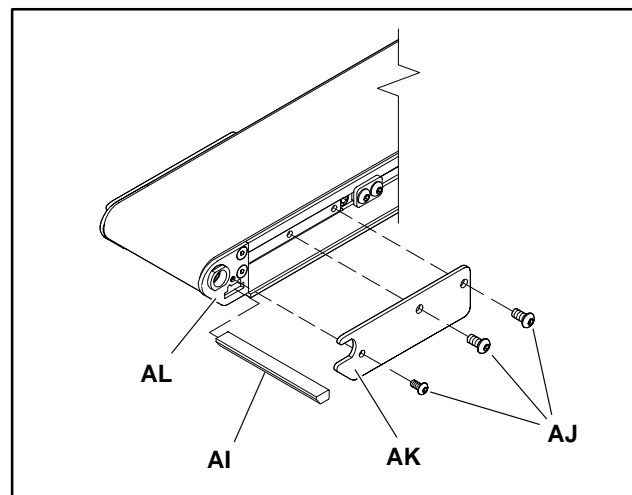

Figure 14
1. From the discharge end, remove tail cover plate screws (AJ of Figure 14) from one side of the conveyor.
- From the discharge end, remove tail cover plate screws (AJ of Figure 14) from one side of the conveyor.
- Remove tail cover plate (AK).
- Slide bottom wiper (AI) through side slot of tail plate (AL).